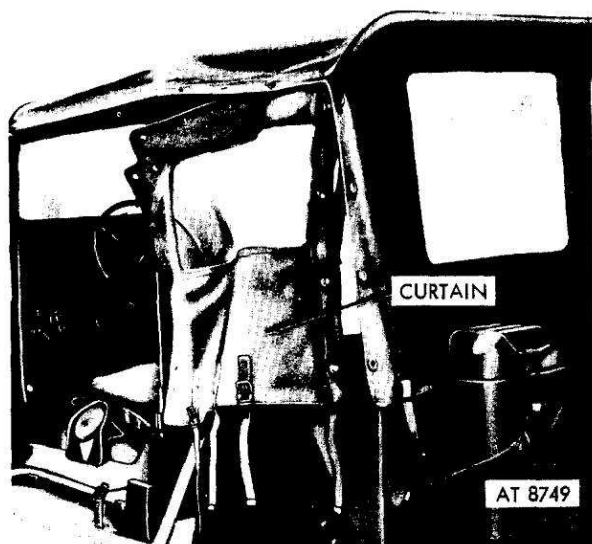

Figure 4-14. Installing left side curtain.
j. Select the left side curtain, attach it to canvas top by button fasteners, as illustrated in figure 4-14, starting at the back top corner, working forward, and then down the back.